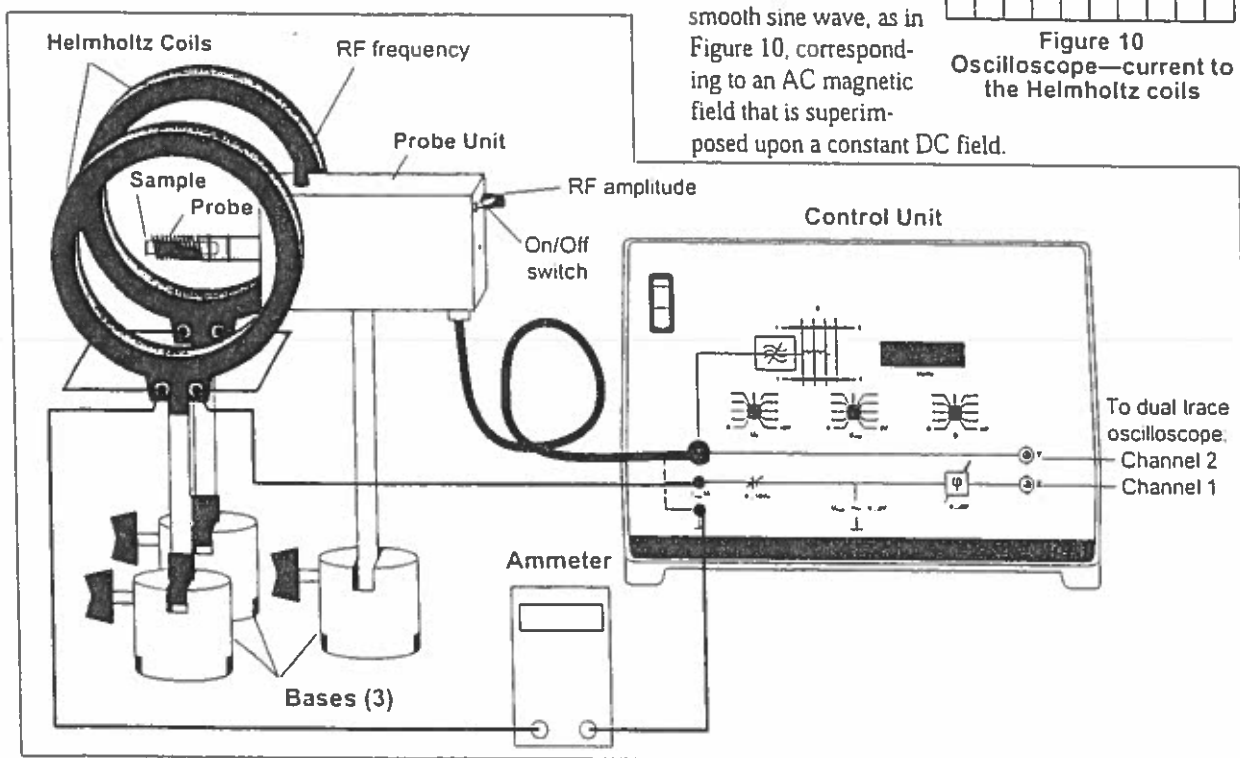

Figure 9 Setup using the Control Unit
- ① Connect the Helmholtz coils to the Control Unit, as shown in Figure 9. (The coils should be connected in parallel—terminal A to terminal A, and Z to Z.) Connect an ammeter in series, as shown, to monitor the current to the coils.
- ② Position the Helmholtz coils so that they are parallel and facing in the same direction, and their separation is equal to approximately one half their diameter.
- ③ Connect the X output of the Control Unit to channel 1 of a dual trace oscilloscope. Set the oscilloscope controls as follows:
- ⑦ Connect the Probe Unit to the Control Unit, as shown in Figure 9.
- ⑧ Plug the medium sized RF Probe into the Probe Unit, and insert the sample of DPPH into the coil of the probe.
- ⑨ Turn on the Probe Unit by flipping the On/Off switch to the up (I) position. Then turn the Amplitude knob on the Probe Unit to a medium setting.
- ⑩ The frequency meter on the Control Unit should now indicate the frequency of the RF oscillations. Adjust the Frequency control knob on the Probe Unit to produce an output of approximately 50 MHz.
- ⑪ Set  $U_{mod}$  to about the 4th position above zero (at about the 11 o'clock position).